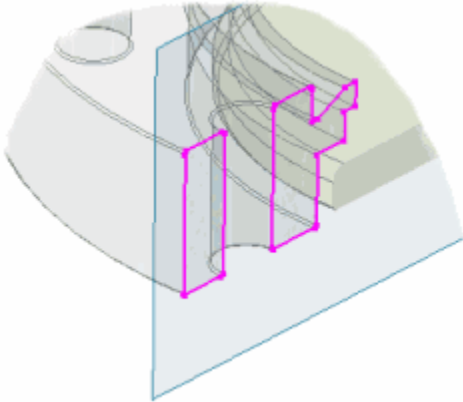

Figure 7: Reoriented View.
7. Reorient your view to match the one shown in Figure 7.